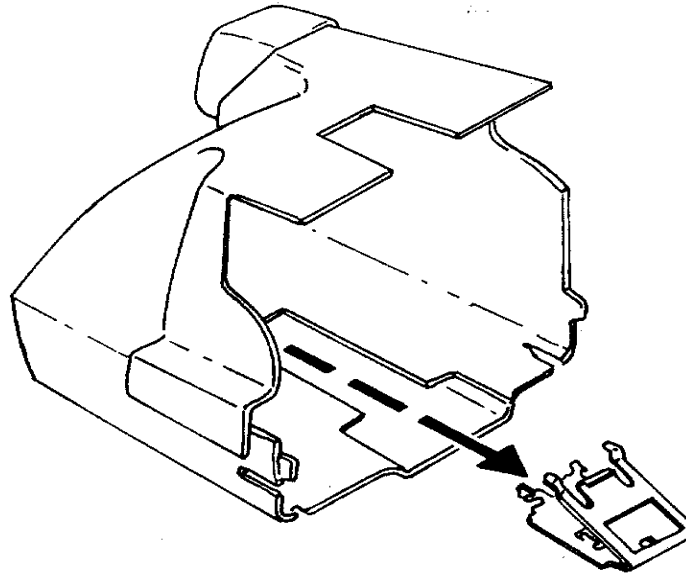

Fig. 15 Removing Pack Spring and if present, Tripod Nut
15. Remove the Pack Spring by depressing it with your thumb and pulling it forward, out of the Body (Fig. 15). (If the Camera has a Tripod Nut, it will now fall out.)